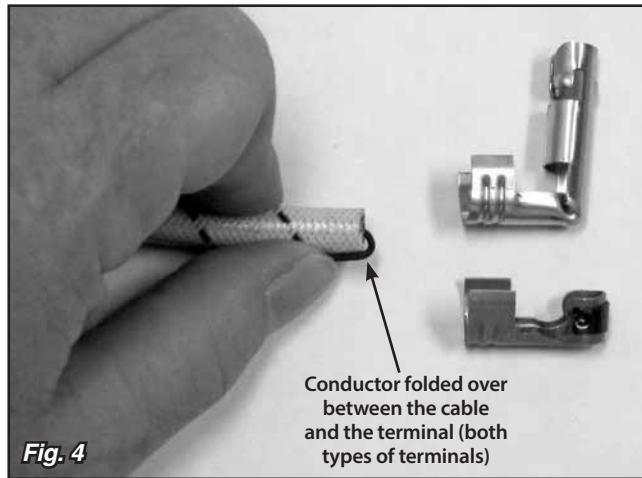
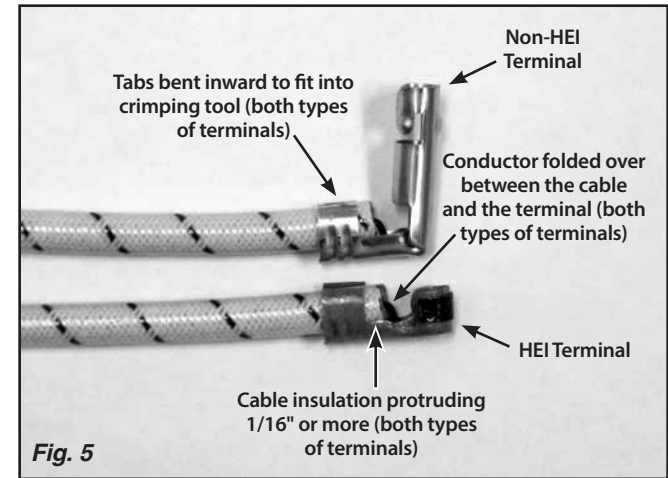

Fig. 4
Fig. 5
Step 9: Fold the conductor over against the outside of the insulation. **Fig. 4** Position a distributor cap terminal on the end of the cable, with the conductor on the bottom in between the insulation and the back of the distributor cap terminal. Make sure that the terminal is positioned so that at least 1/16" or a little more of the insulation is protruding beyond the edge of the tabs on the distributor cap terminal. **Fig. 5**
Step 10: Before you start to crimp the distributor terminal, use a pair of pliers to squeeze the distributor terminal tabs together enough to keep the distributor cap terminal from falling off of the cable, and so that the tabs will fit into the notches on the crimper tool. **Fig. 5**